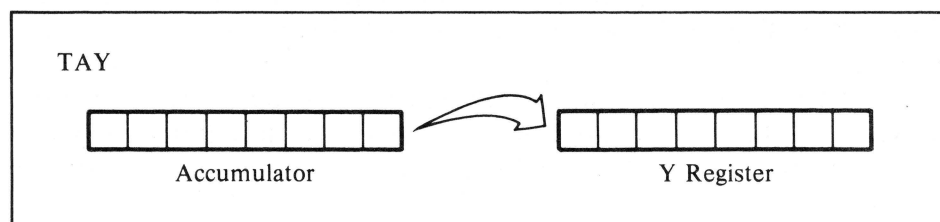

Figure 8-7. Transfer from accumulator to Y register
- **TAY** — Transfers the contents of the accumulator to the Y register (see Figure 8-7).